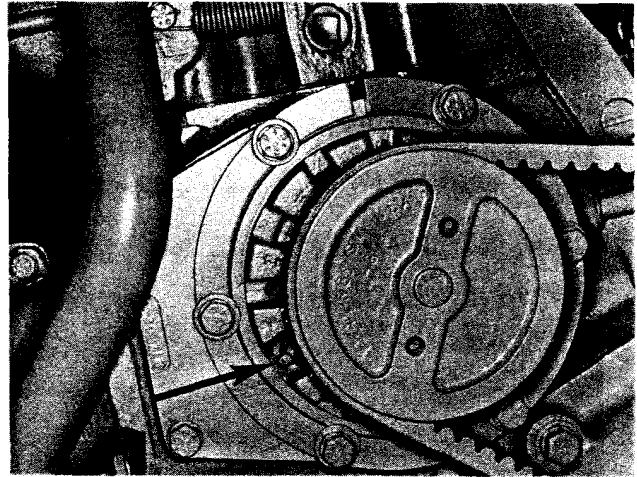

Fig. 2-60, (N11973). Eccentric body type water pump
1. Lubricate eccentric body (no idler pulley for belt adjustment) type water pump by applying grease gun to fitting, give one "shot" from grease gun. Fig. 2-60.